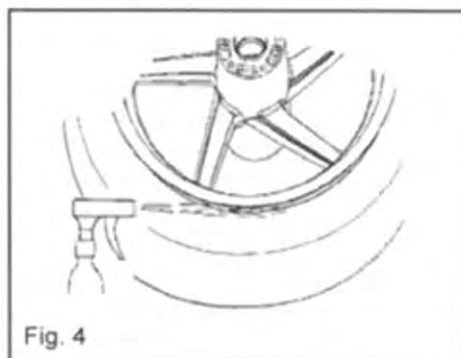

Fig. 4
6. Push tire down and lubricate tire bead with tire lubricant on both sides of tire. (Fig. 4)